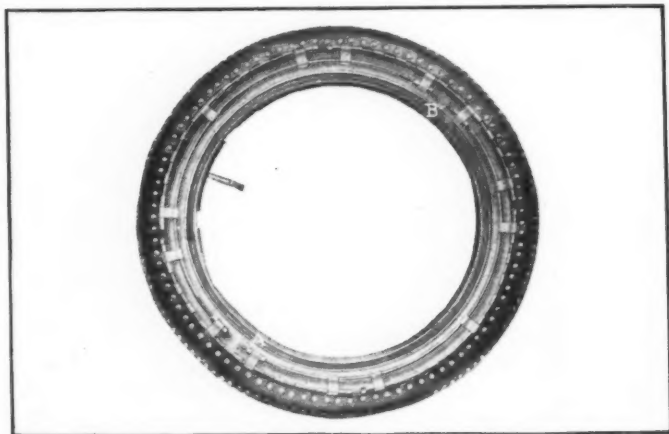

Fig. 8—Tire protector manufactured by the XXX Auto Accessory Co. This protector is of canvas and asbestos and is designed not to heat up
**XXX Heatless Tire Protector**—The XXX Auto Accessory Co., Springfield, Mass., makes a tire protector, Fig. 8, of canvas and asbestos which does not heat up. To prevent skidding the cover is fitted with steel studs along that section which forms the running tread. The method of tightening this protector on the tire and of preventing its creeping thereon is specially original. There are a number of small tube sections attached to the periphery of the cover on both sides of the protector, and on each side they slide on circular rods. Besides these, there are on one side two semi-circular rods connected to the other rods by links secured to both, and by tightening the nuts A and B on the two ends of one rod, the protector is drawn tight on the tread.